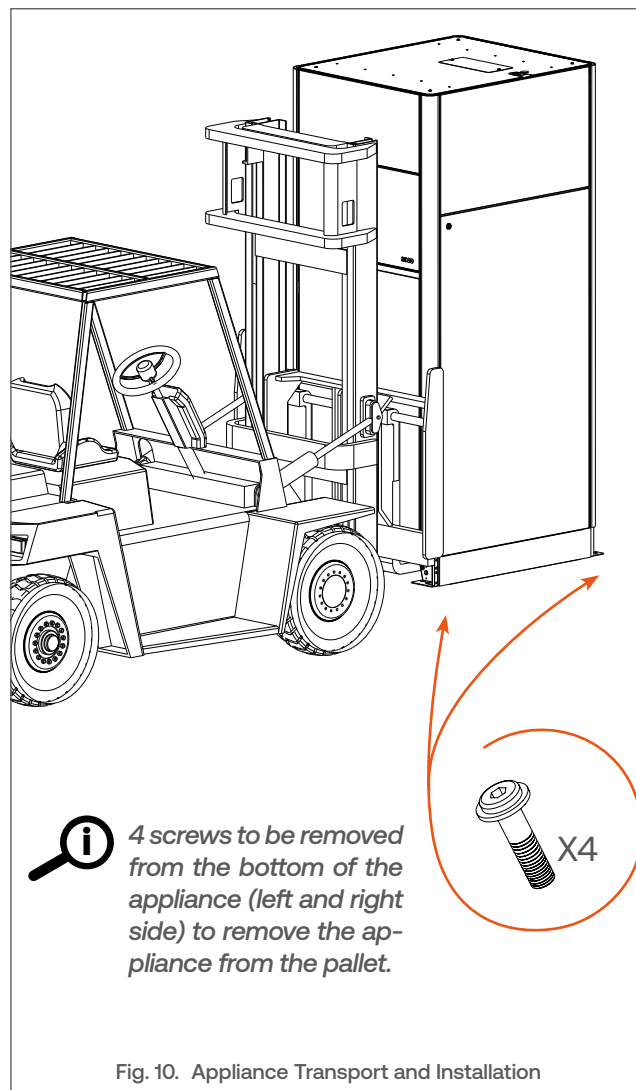

Fig. 10. Appliance Transport and Installation
3. Using a wrench with an hex head size 8, remove four screws (See **Fig. 10**) from the bottom of the water heater and the pallet.
2. Slide the arms of the fork lift under the appliance, from the front of the appliance (See **Fig. 10**).